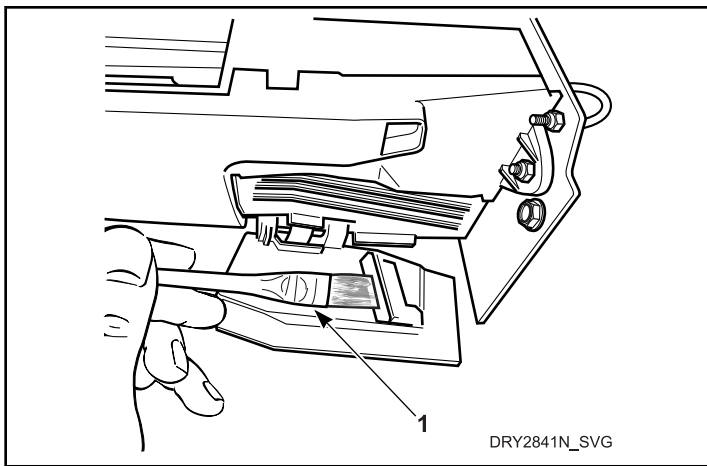

Figure 24
6. Clean residue from coin rail and pendulum inside flap with an alcohol-moistened soft brush. Refer to *Figure 24*.